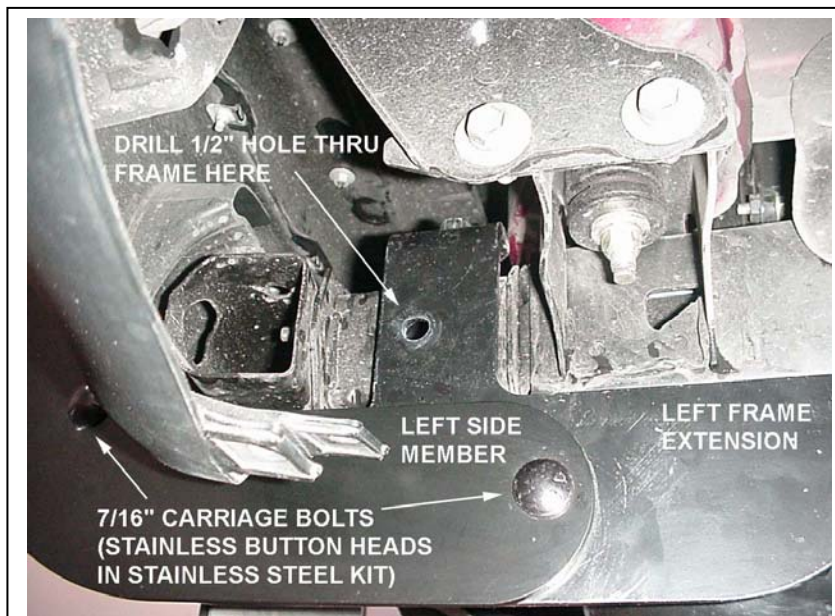

Figure 8. Left Side Member
7. Use the hole in the frame extension and frame as a guide and drill a 1/2" hole through the inside of the box frame. It may be necessary to loosen or remove the plastic lower bumper for adequate drilling room. Secure the frame extension with a 1/2 x 3-1/2" bolt, lock washer and nut. **Figure 8**.
bolts and lock nuts in place of lock washers. **Figure 8.**